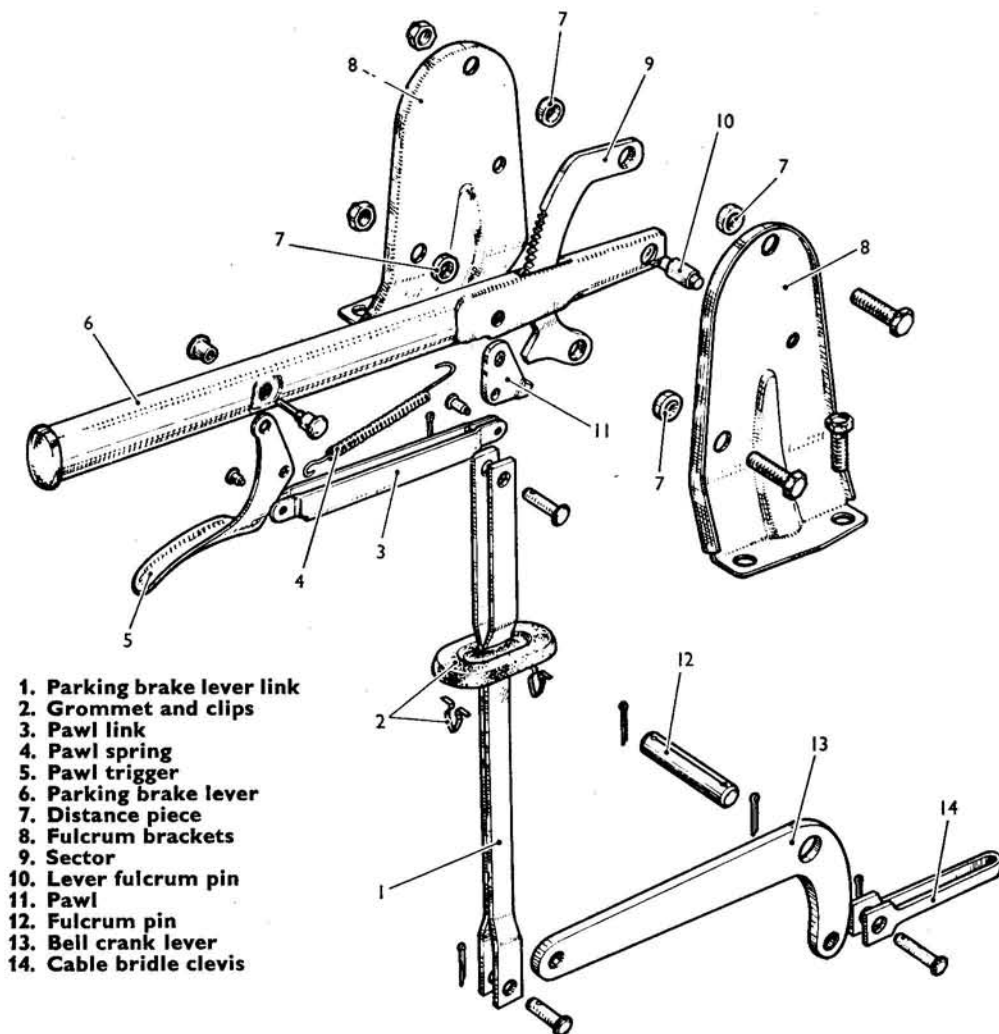

Fig. O.18. Parking brake lever assembly components
2. Ensure that the parking brake lever fulcrum pin is engaged in the bracket holes and that two distance pieces are located between the sector and each bracket (Fig. O.18).